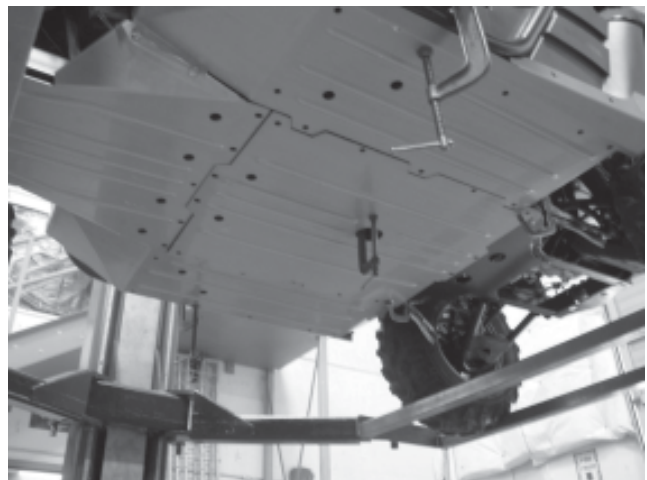

Figure 5
Mounting holes in vehicle frame will need to be drilled. Center punch and drill mounting hole locations using 11/64" drill bit. Loosely fasten skid plate to frame using #12 screw (B1). **(Figure 5)**
7. Align front skid plate with middle skid plate and frame of vehicle. Center punch and drill remaining mounting hole locations. Loosely fasten front skid plate to frame using #12 screw (B1). **(Figure 5)**